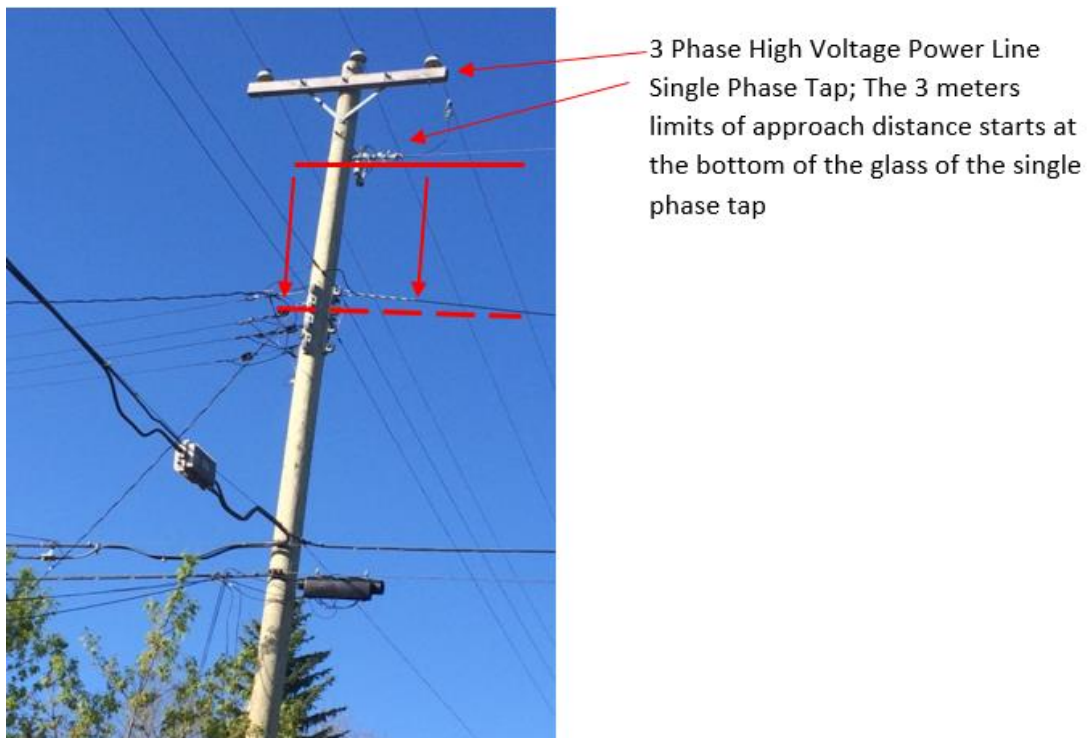

Figure 7 - Three Phase Power Line with a Single Phase "Tap"
- 7.3.1. Figure 7 is a three phase structure with a single phase high voltage power line “tapping off”. The tap off is attached to one of the top conductors by a jumper so is energized at the same high voltage as the 3 top conductors.